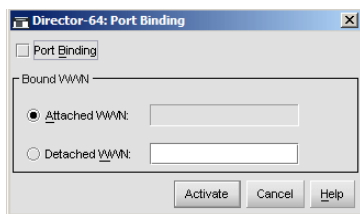

Figure 24 Port Binding dialog box
- **Port Binding**—Right-click any port in the Port Card view right-click menu and select **Port Binding** to display the Port Binding dialog box, as shown in Figure 24 on page 70. Use this dialog box to allow a device with a specific WWN or nickname to have exclusive communication privileges over a port. To use this dialog box, see the following paragraphs.